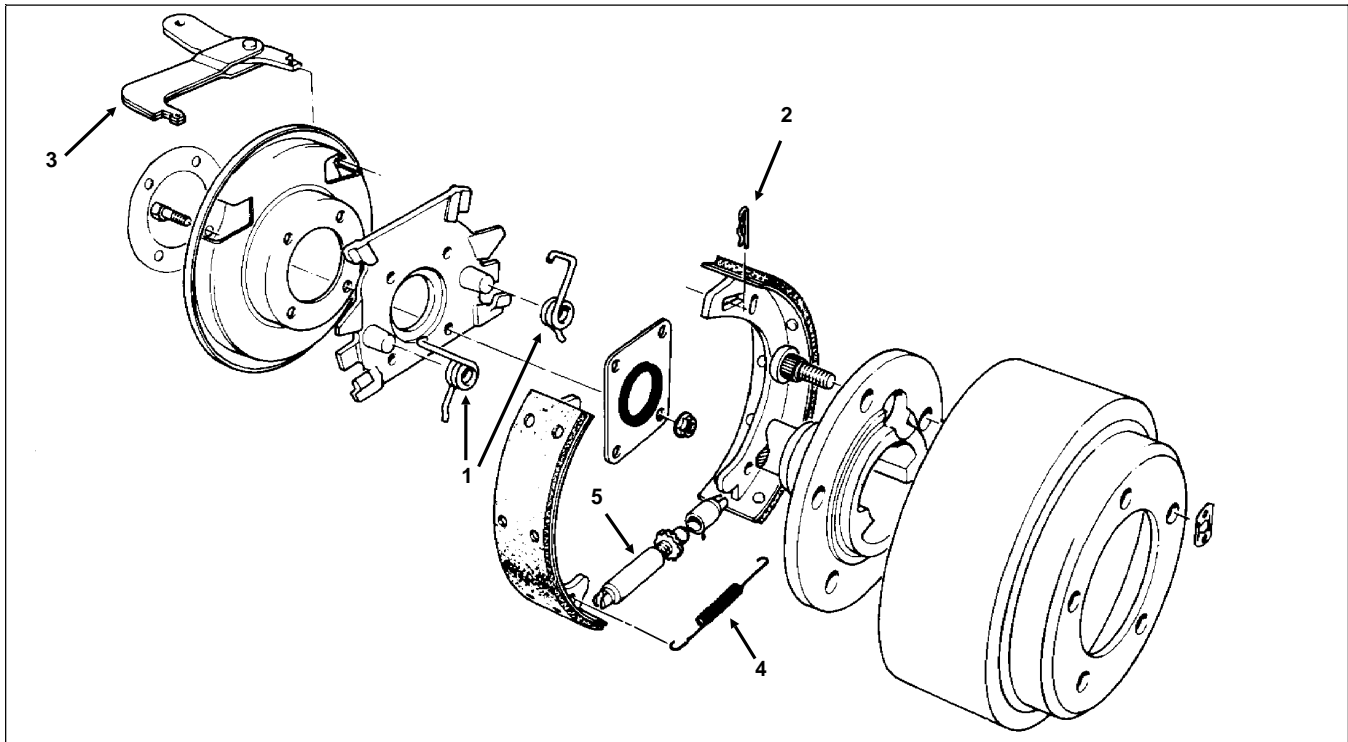

Figure 22
3. Remove brake shoe return spring (Fig. 22) by prying the end of the spring up and over its retaining boss. Use a brake spring pliers or flat blade screwdriver.
Wear a face shield when removing brake return spring (Fig. 22). The spring is under tension and could possibly slip during removal.